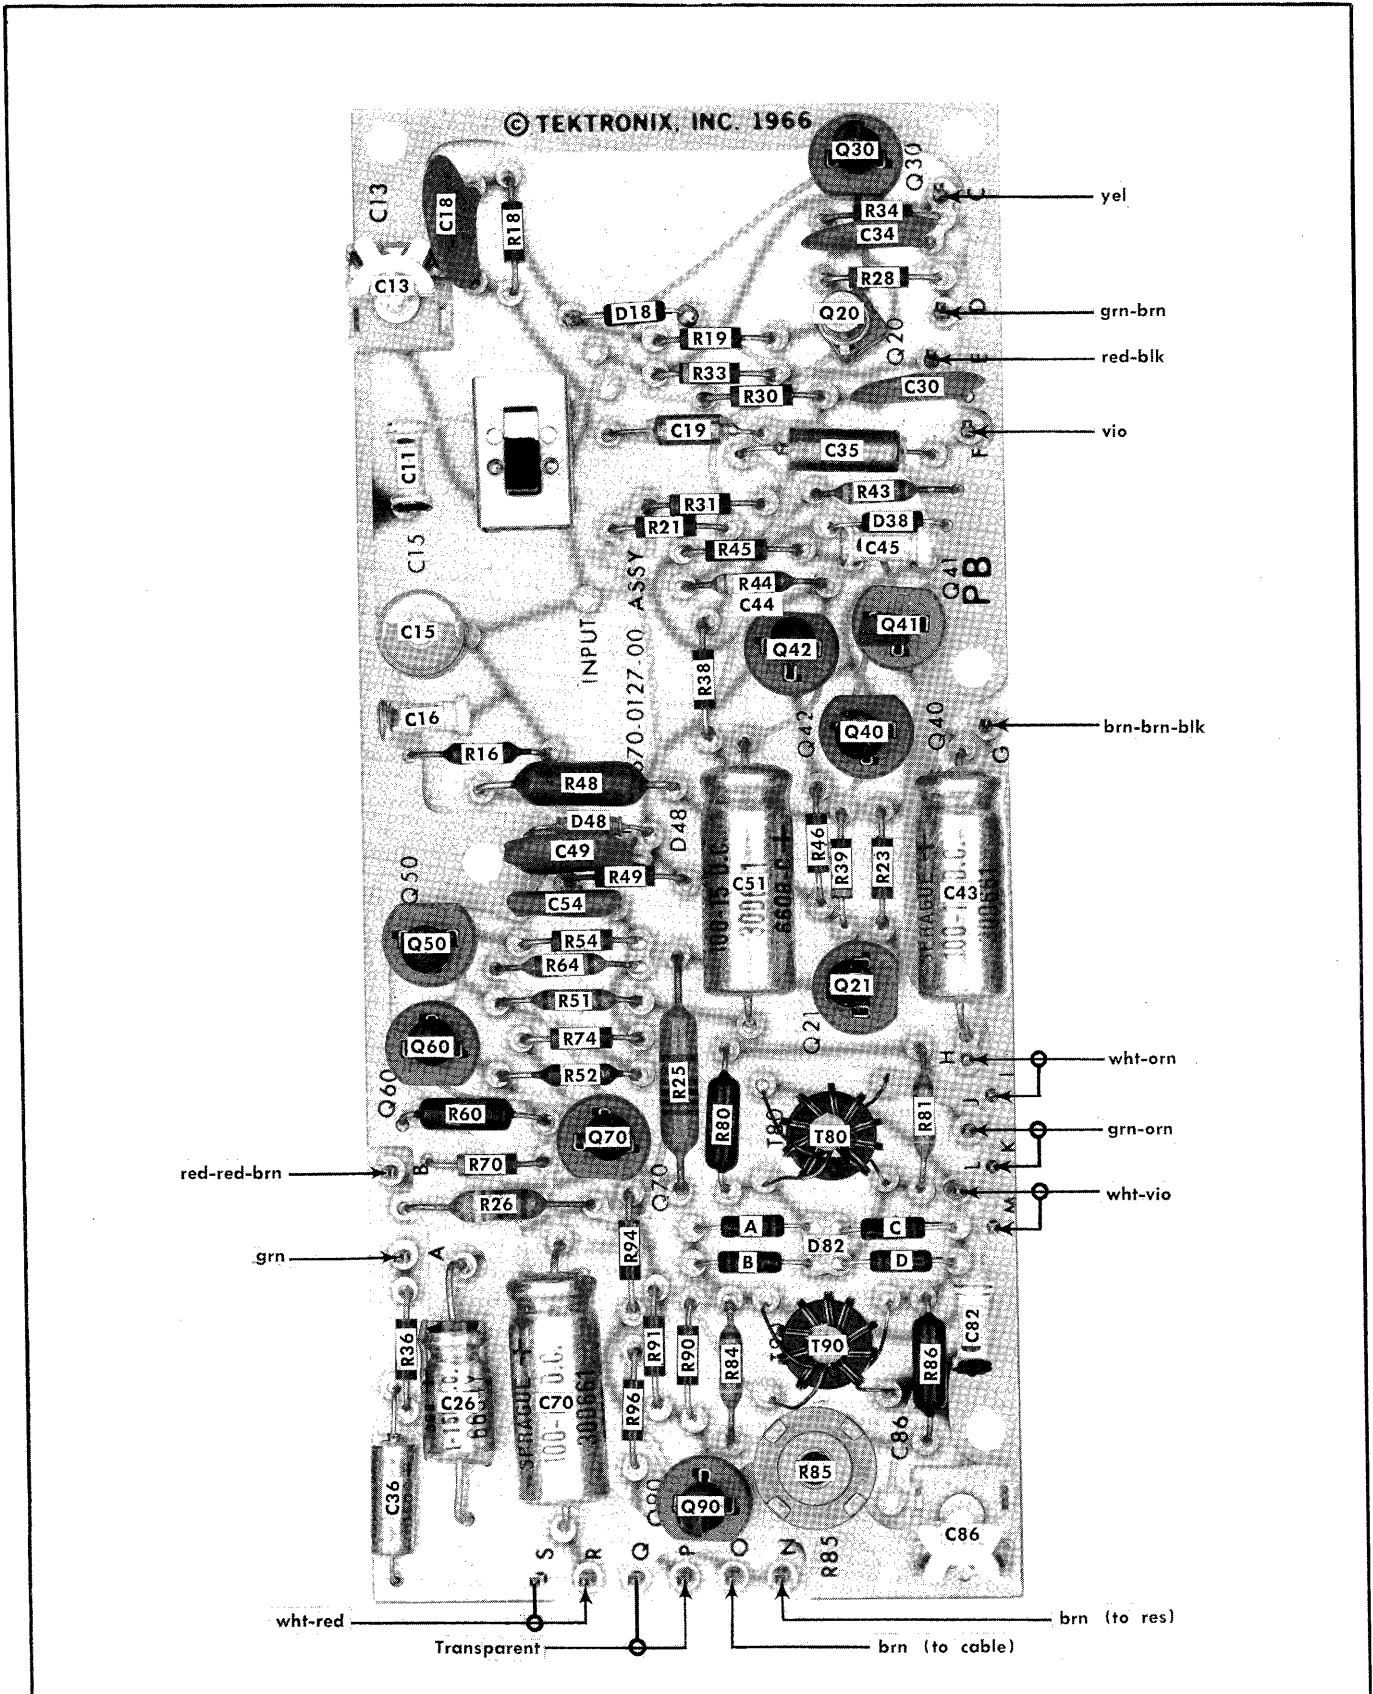
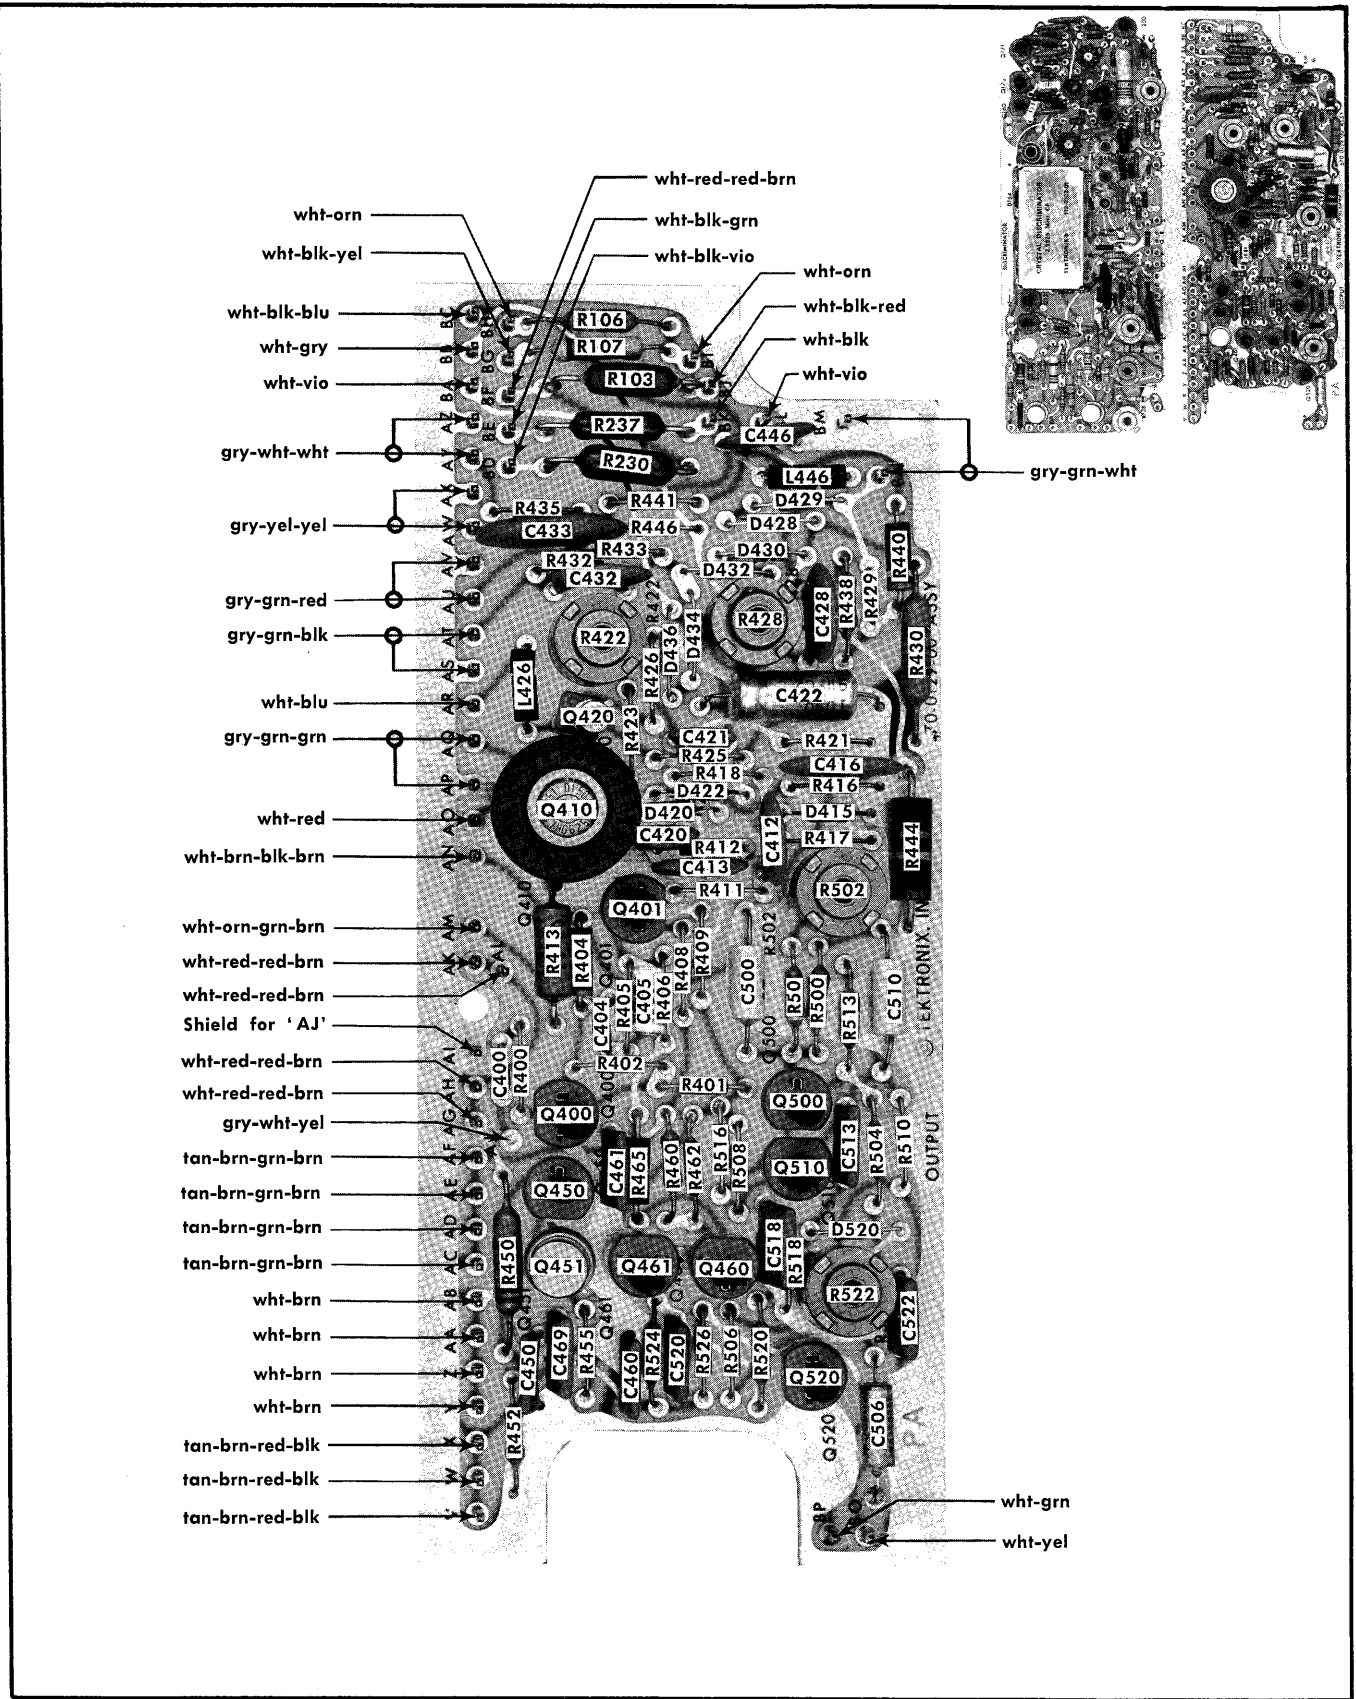

Fig. 4-4. Input Amplifier and 1st IF Mixer circuit board.
Fig. 4-7. Output Driver, Output Amplifier, Calibrator and Power Distribution circuit board.
4. Lift the VOLTS/CM switch assembly up and back to clear the V/CM \div 100 linkage, then slide the board out from under the switch assembly. Figs. 4-4 through 4-7 should be used to identify the pin connectors with the wiring color code when replacing the pin connectors.
Circuit Boards. Figs. 4-4 through 4-7 show the individual boards, with the circuit numbers for each component. In addition, the circuit board sections on the diagrams are outlined in blue, to aid in locating individual components.
Check circuit voltages and waveforms against those shown on the diagrams of Section 9 of this manual. Fig. 4-4 through Fig. 4-7 provide board wiring and component layout information. If the trouble can not be isolated to a particular circuit, start with the power distribution circuit, then proceed consecutively from one circuit to the next.